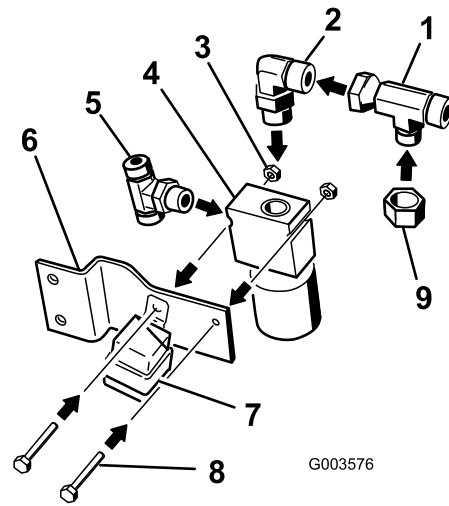

Figure 12
1. Install the fittings at the angles shown in the figures. Install the tee fitting to the side of the valve. Refer to Figure 12 for the correct tee fitting.
2. Install a small 90-degree elbow to the top of the valve (Figure 12).
3. Install the tee adapter to the 90-degree elbow. Refer to Figure 12 for the correct tee fitting.
4. Install the cap onto the tee adapter (Figure 12).
6. Install the valve to the valve bracket with 2 bolts (1/4 x 1-3/4 inches) and 2 nuts (1/4 inch); refer to Figure 12.